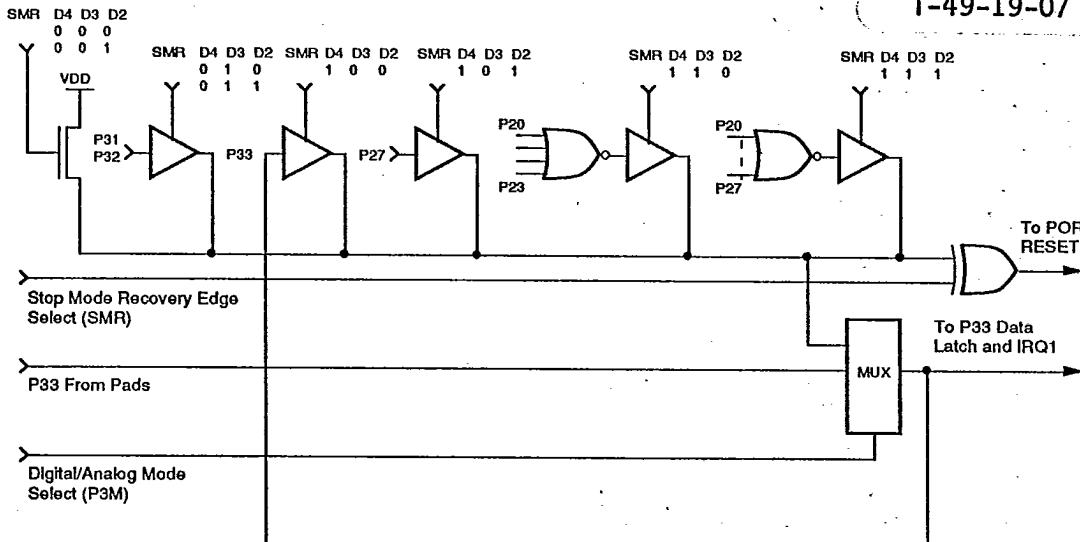

Figure 13. STOP Mode Recovery Source
**STOP Mode Recovery Source (D2, D3, and D4).** These 3 bits of the SMR specify the wake-up source of the STOP Mode recovery (Figure 13 and Table 4).
**STOP Mode Recovery Level Select (D6).** A 1 in this bit position indicates that a high level on any one of the recovery sources wakes the device from STOP mode. A 0 indicates low level recovery. The default is 0 on POR. (See Figure 13).